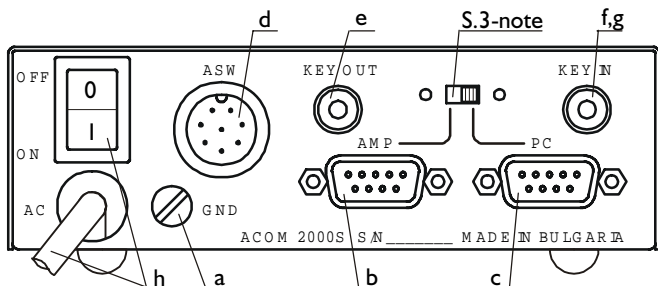

Fig.2-2 ACOM2000S rear panel
a) First connect the ground stud of the selector (on the rear panel, marked GND) to the station's grounding system (Fig.2-2). Length should be as short as practical.